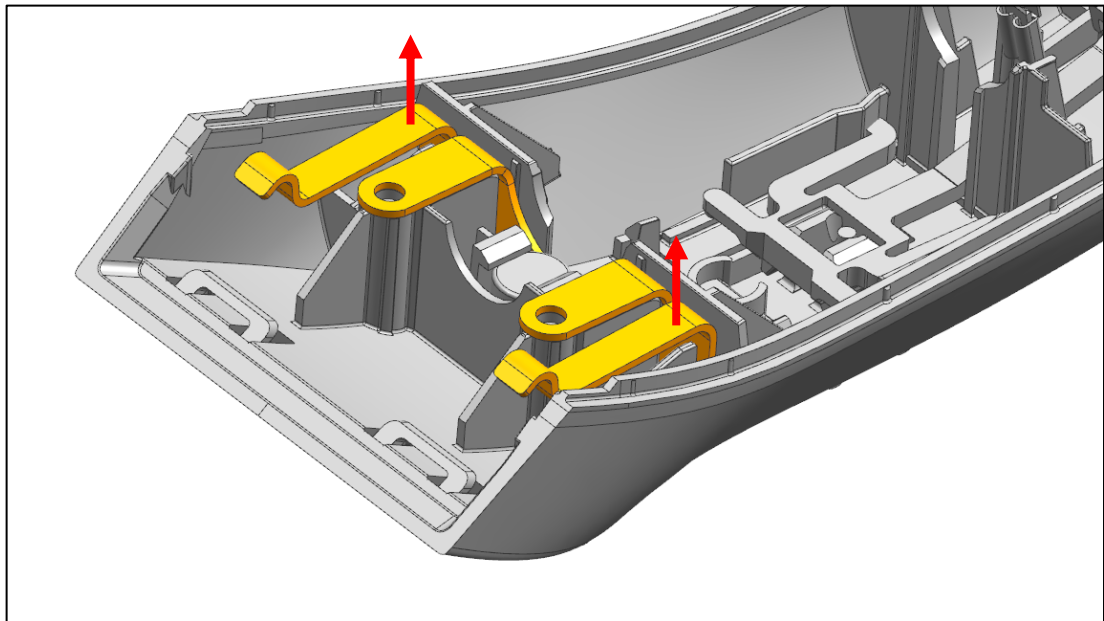

Fig. 8
- a) Detach the holding plate from the clamping of the housing by carefully moving it back and forth at the two outer legs of the spring. Then remove the holding plate from the housing (Fig. 8).